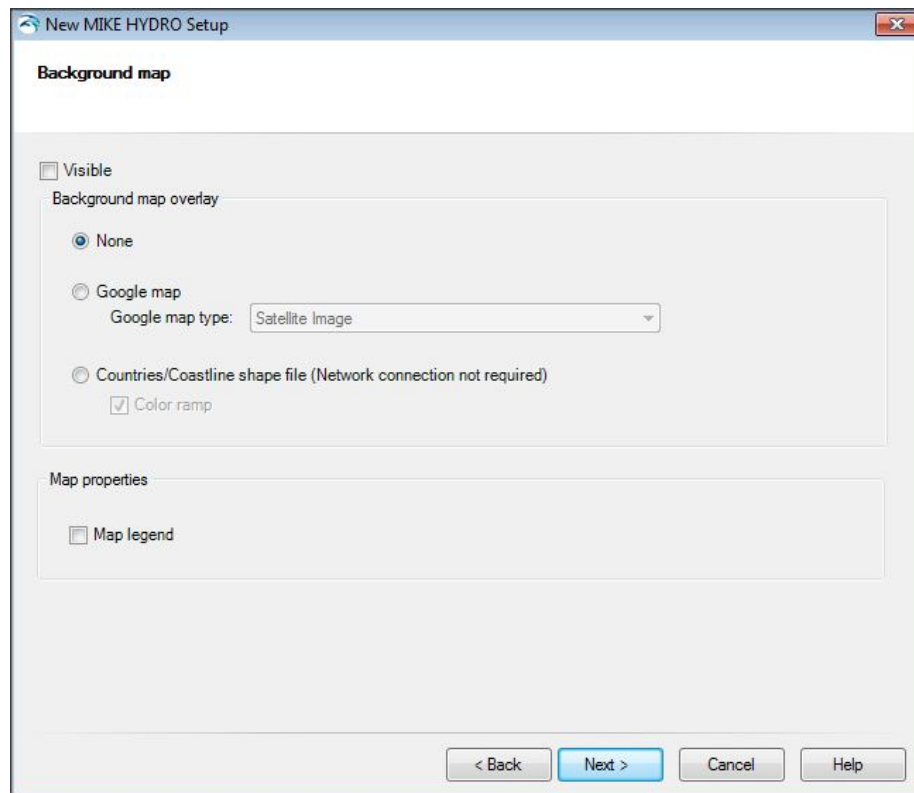

Figure 10: Background map dialog
- Background Map: The Background Map dialog appears (Figure 10) to select map that can be used as background for your model. In this case select 'None' and press the 'Next' button and move to the next step.